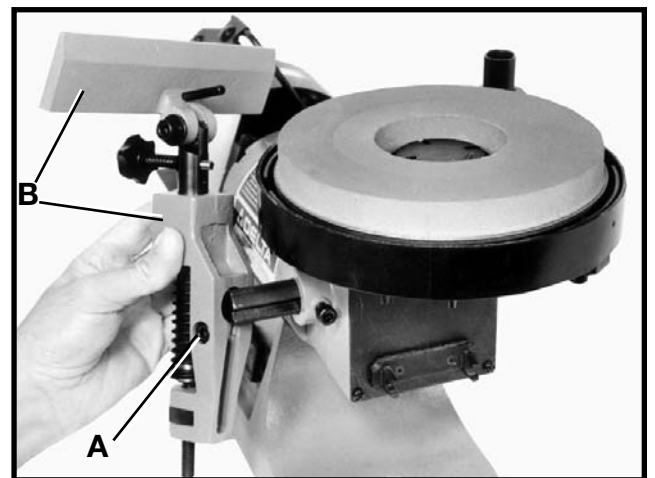

Fig. 37
1. Loosen screw (A) Fig. 37, and remove tool and chisel holder assembly (B) as shown.